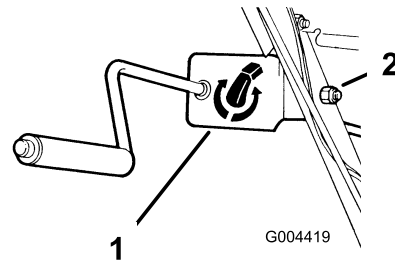

Figure 10
1. Assemble the chute control bracket and rod to the left side of the handle with the bolt and the locknut as shown in Figure 10.
- Tighten the locknut that secures the chute control bracket (Figure 10).